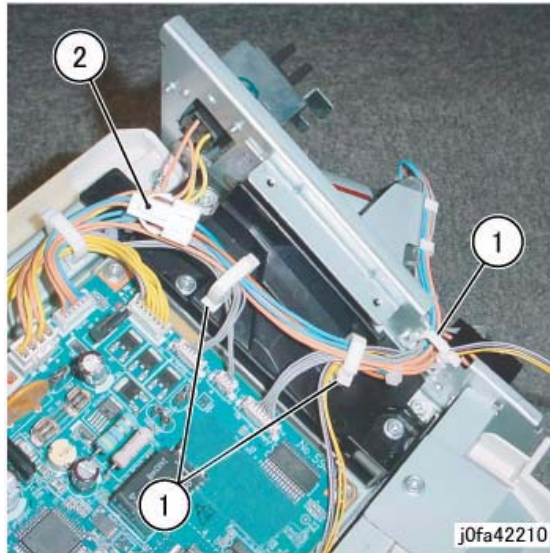

Figure 1 Disconnecting the Connector (j0fa42210)
5. Disconnect the Connector. (Figure 1)